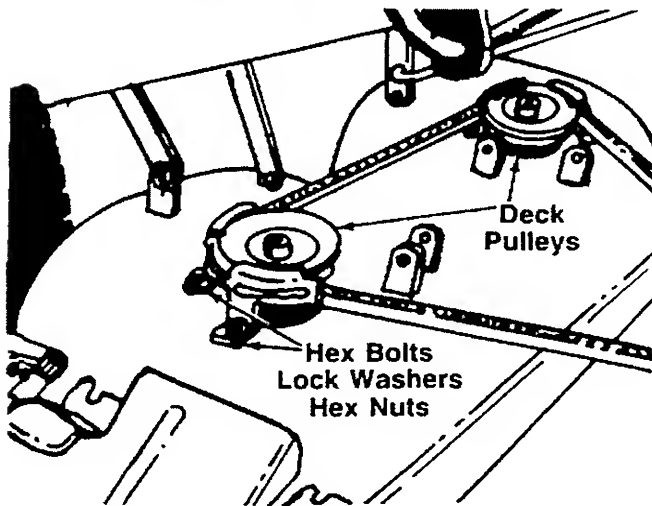

FIGURE 19.
8. Remove the belt guards at each deck pulley by removing the hex bolts, lock washers and hex nuts. See figure 19.